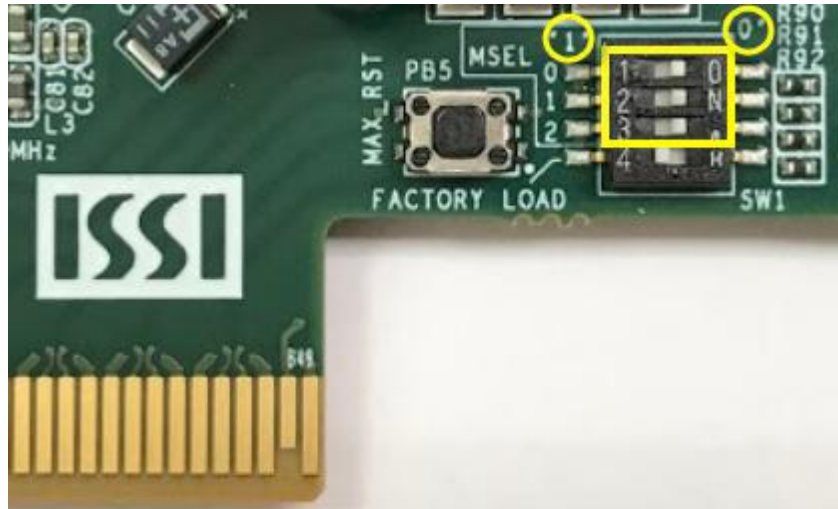

Figure 4-1 MSEL[2:0]=000
2. Set the FPGA configuration mode to FPPx16 mode by setting SW1 MSEL[2:0] as **000** as shown in **Figure 4-1**.